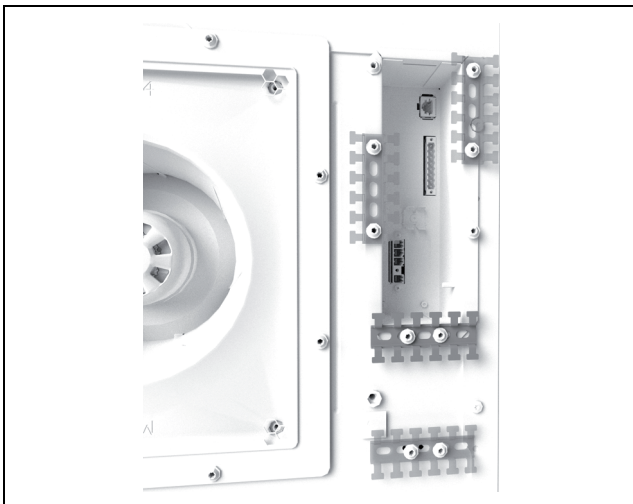

Fig. 39: Attach the T-rail (example illustration)
- The cable shield can make contact with the T-rail (fig. 39).